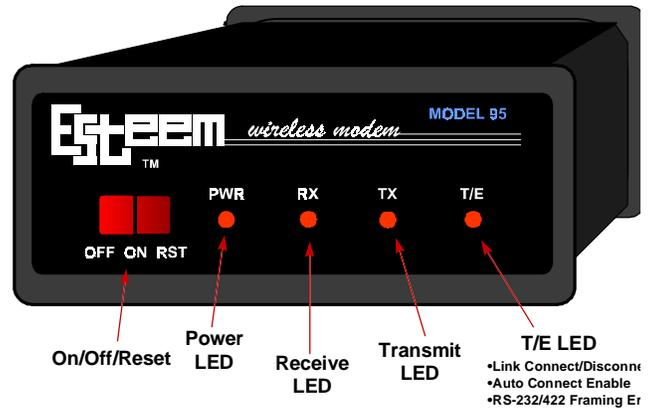

Figure 4: ESTeem Front Panel
4. The Description of ESTeem Front Panel section will show the location and description of the four lights on the front of all ESTeem modems (Figure 4). For example, place the cursor dot over the PWR location and press ENTER. A small dialog on the meaning of the PWR light indicator will be displayed. Familiarize yourself with the meaning of all the display lights on the ESTeem and press ESC to continue.